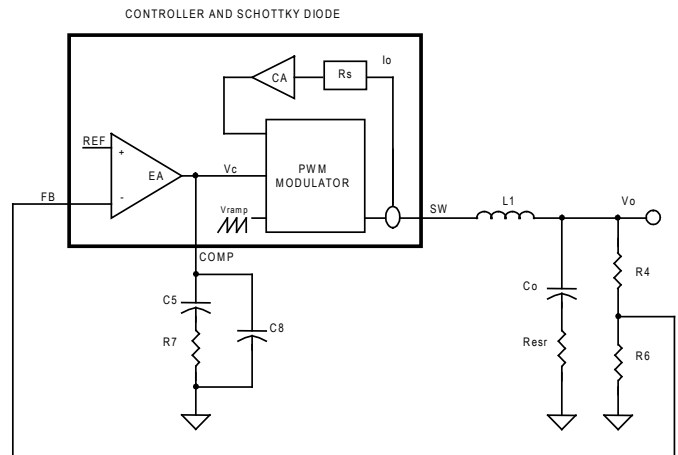

Figure 7 — Block diagram of control loops
The block diagram in Figure 7 shows the control loops of a buck converter with the SC4524D. The inner loop (current loop) consists of a current sensing resistor ($R_s=5.5m\Omega$) and a current amplifier (CA) with gain ($G_{CA}=18.5$). The outer loop (voltage loop) consists of an error amplifier (EA), a PWM modulator, and a LC filter.
For a converter with switching frequency F_{SW} , output inductance L_1 , output capacitance C_o and loading R, the control (V_c) to output (V_o) transfer function in Figure 7 is given by: